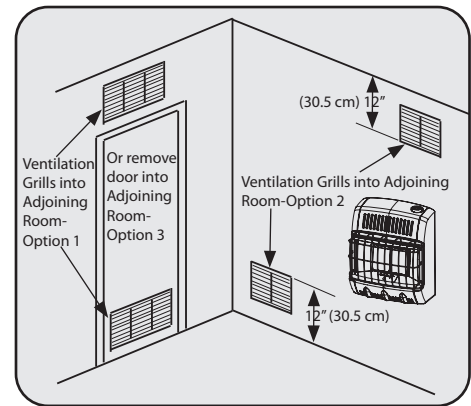

Figure 2
- Rework worksheet, and the space of an adjoining room. If the extra space provides an unconfined space, remove door to adjoining room or add ventilation grills between the rooms. See Ventilation From Inside Building (Fig. 2)
This fresh air would come from an adjoining unconfined space. When ventilation to an adjoining unconfined space, you must provide two permanent openings: one within 12" of the ceiling and one within 12" of the floor on the wall connecting the two spaces (see options 1 & 2 of figure 2). You can also remove door into adjoining room (see option 3, fig 2). Follow the National Fuel Gas Code NFPA 54/ ANSI Z223.1, Section 5.3, Air for Combustion and Ventilation for required size of ventilation grills or ducts.